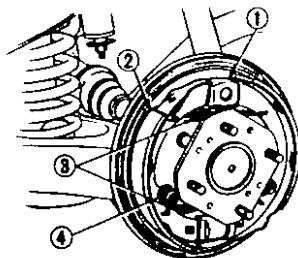

Fig. L.11 View of the rear drum brake
3. Remove the brake drum. Remove the shoe retainers the return springs and brake shoes (Fig.L.11.).